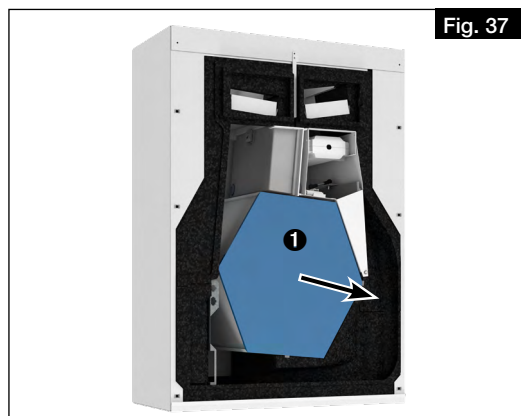

Fig. 37
3. Carefully remove the heat exchanger ❶ from the unit (see Fig. 37).